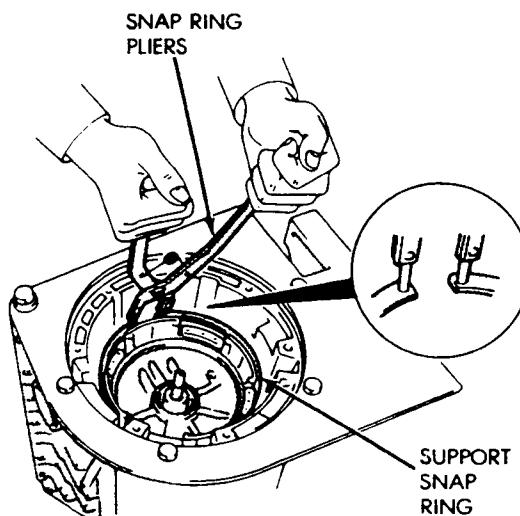

Fig. 25 Removing/Installing Overdrive Support Snap Ring
(33) Remove overdrive support snap ring with tool B.Vi. FM. 29 (Fig. 25).